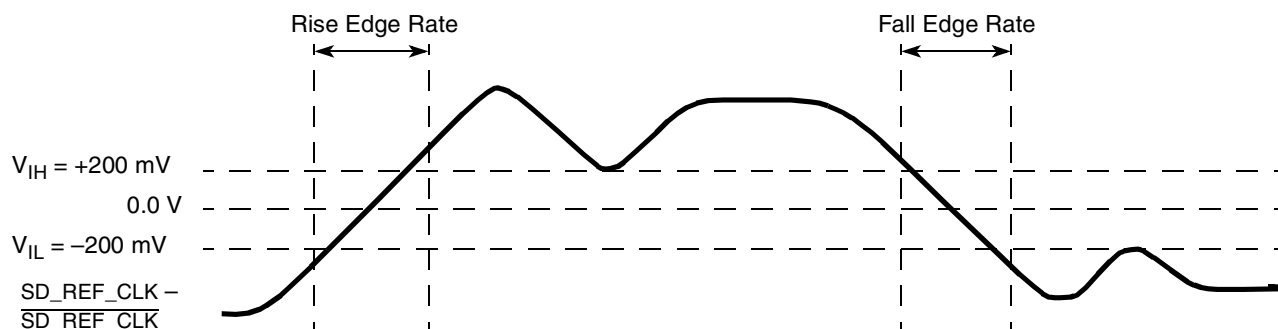

Figure 52. Differential Measurement Points for Rise and Fall Time
1. The differential waveform is constructed by subtracting the inverting signal ($\overline{SDn_TX}$, for example) from the non-inverting signal (SDn_TX , for example) within a differential pair. There is only one signal trace curve in a differential waveform. The voltage represented in the differential waveform is not referenced to ground. Refer to Figure 52 as an example for differential waveform.
3. Measured from -200 mV to +200 mV on the differential waveform (derived from SDn_REF_CLK minus $\overline{\text{SDn_REF_CLK}}$). The signal must be monotonic through the measurement region for rise and fall time. The 400 mV measurement window is centered on the differential zero crossing. See Figure 52.